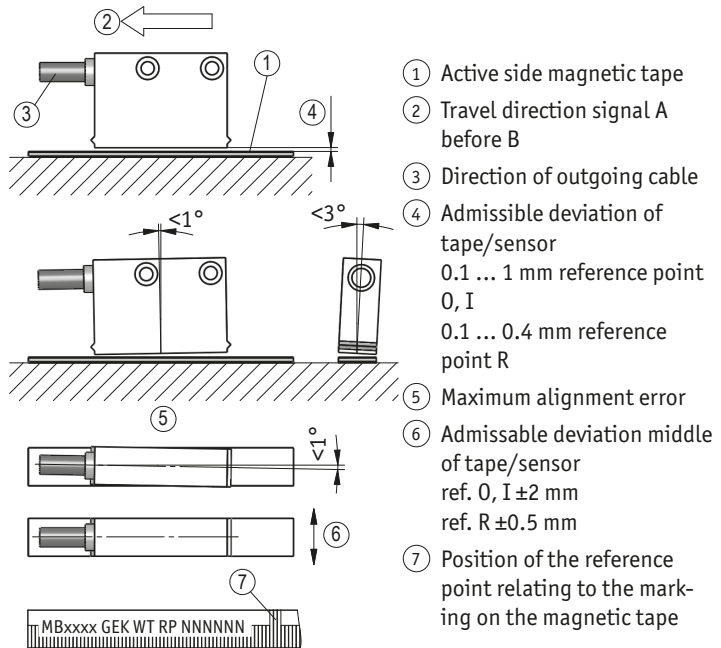
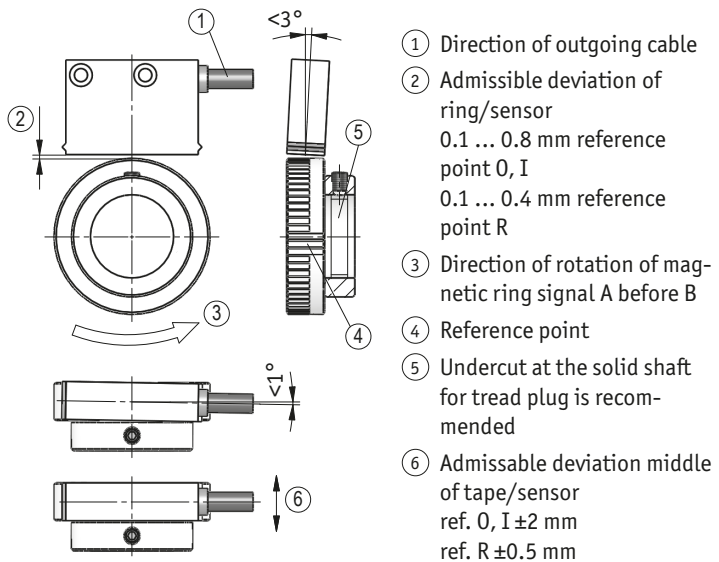

Fig. 6: Definition of the counting direction with magnetic tape and assemblage sensor / magnetic tape, gap measure, tolerances
Fig. 8: Definition of the counting direction with magnetic ring and assemblage sensor/magnetic ring, gap measure, tolerances
- ▶ Take care that the magnetic sensor is aligned correctly in order to ensure optimum sensing (see Fig. 6).
3. Provide for a relief groove in the solid shaft (see Fig. 8).
- The distance tolerances were not observed over the whole measuring length (see Fig. 6, Fig. 8).
- The magnetic sensor has been mounted with the active side turned away from the band (see Fig. 6, Fig. 8).
- Magnetic sensor has not been aligned according to Fig. 6, Fig. 8.